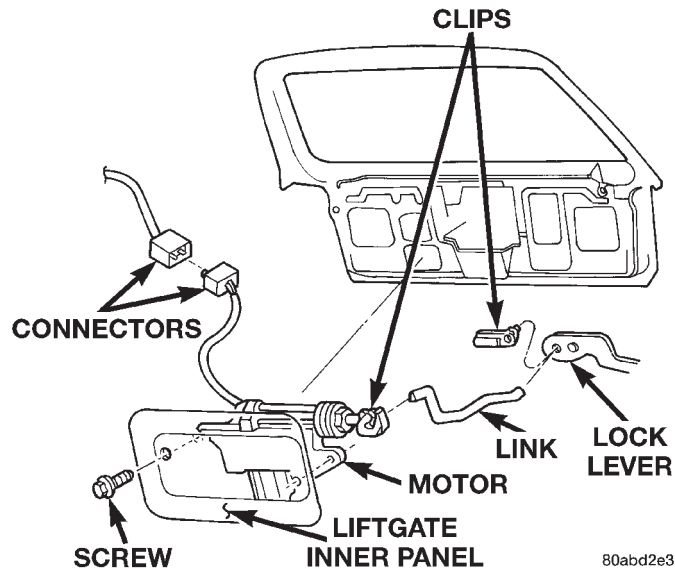

Fig. 5 Liftgate Power Lock Motor Remove/Install
(3) Remove the liftgate trim panel from the liftgate. Refer to Group 23 - Body for the procedures.
(4) Reach through the liftgate inner panel access hole and disconnect the link from the clip on the power lock motor (Fig. 5).